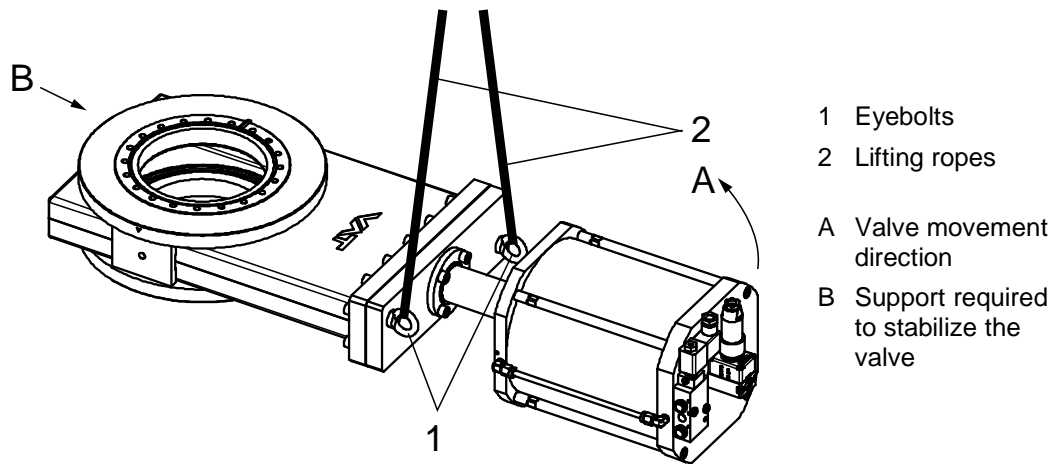

Figure 4-1
Open the plastic bag protecting the valve only at the points where you need access to the eyebolts (1) for fastening the crane hooks; see «Figure 4-1» on page 10. Keep valve in the plastic bag until it is being installed into the system.
|   | <p>Wrong liftingValve may crash and get damaged.Use only the eyebolts shown in the dimensional drawing and in «Figure 4-1» on page 10 to lift the valve. Using any other components (e. g. position indicators, solenoids) to lift the valve is strictly forbidden.</p> |
Use a crane for lifting valve DN100 and higher out of the transport box; see «Figure 4-1».